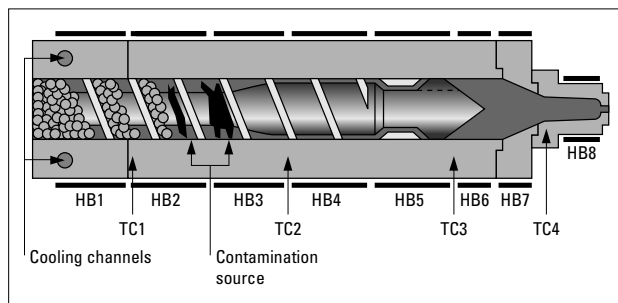

Fig. 3.02 The risk of black specs contamination that could arise from the presence of a cooling system of the feed throat (source: CAMDO)
- Usually for DELRIN® there is no need to cool the feed throat, but in case such a need exists, the water flow should be kept to a minimum. Overcooling the feed throat has been observed as a major reason for contamination by black specks. These are generated in the barrel, between the first and second heating zones, with the following mechanism (see Fig. 3.02). The thermocouple TC1 is influenced by the low temperature due to excessive cooling, and the system will respond by switching ON the heating bands HB1 and HB2. This causes no problem with HB1, but results in overheating and degradation in the area under HB2. To reduce the risk of formation of black specks, the following recommendations should be observed: a) the feed throat cooling should be limited to a minimum temperature of 80-90°C; b) the heater band HB2 should be controlled by TC2, or TC1 should be placed in the middle of HB2, or HB2 should have half the power density of HB1.